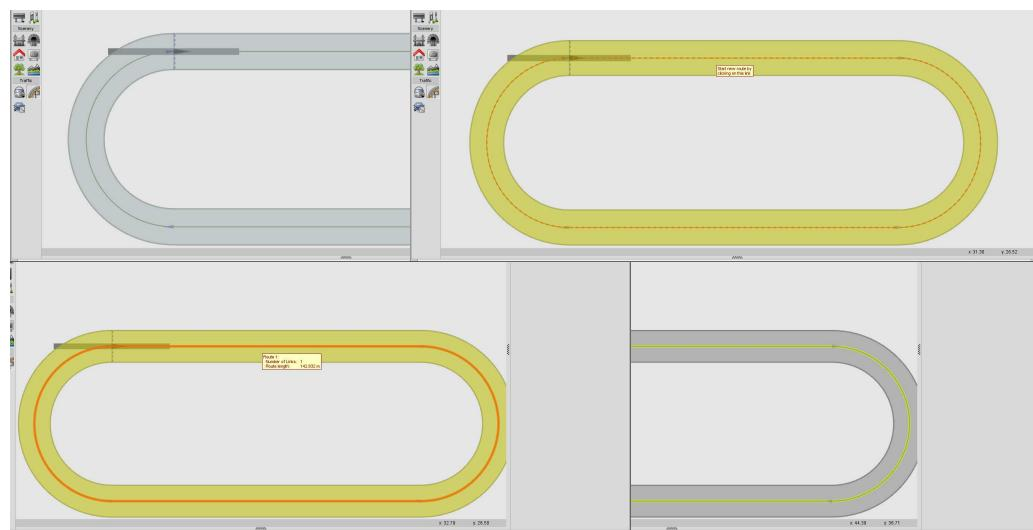

Figure 3.15: Route generation step by step:
- 1) Figure 3.15: shows the steps of route generation and the corresponding overlay color.